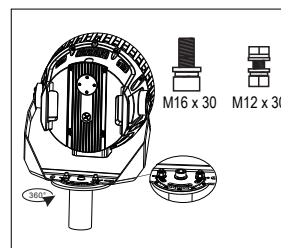

Figure 9
- Adjust the lighting direction as needed, with a 360° rotation option available. Once the adjustment is complete, tighten the screws (Figure 9).